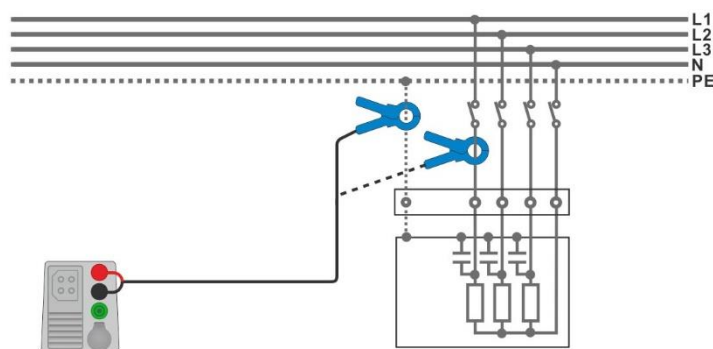

Figure 7.87: PE leakage and load current measurements
- › Connect the clamp to the object under test, see **Figure 7.87**.